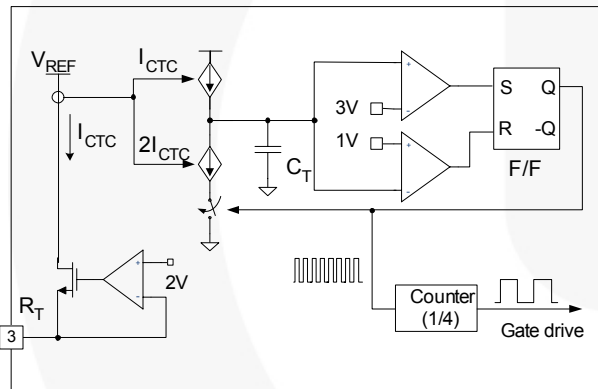

Figure 17. Current Controlled Oscillator
2. Internal Oscillator: FAN7621 employs a current-controlled oscillator, as shown in Figure 17. Internally, the voltage of R_T pin is regulated at 2V and the charging / discharging current for the oscillator capacitor, C_T , is obtained by copying the current flowing out of R_T pin (I_{CTC}) using a current mirror. Therefore, the switching frequency increases as I_{CTC} increases.